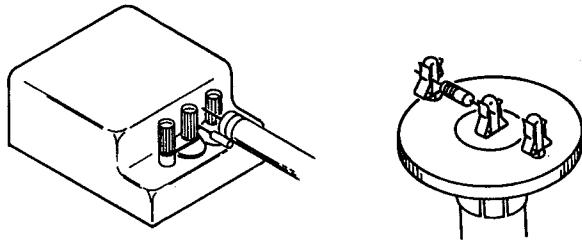

Figure 5-4. Connecting to Test Components
- b. Connect 4815A to precision components as shown in Figure 5-4, checking OHMS meter reading against readings below. MIN NOM and MAX values are derived from full scale reading + correction \pm tolerance, where tolerance is from the formula $\pm \left(\frac{f}{30 \text{ MHz}} + \frac{Z}{25K} \right) \% \pm 4\%$ of F. S. Use frequency counter to set test frequency or change figures in MIN and MAX columns to indicate an additional $\pm 2\%$ from nominal.